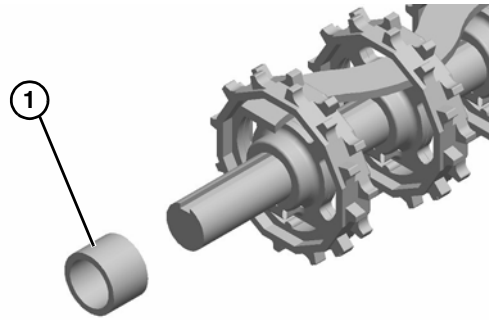

Figure 40
8. Slide off drive sprocket spacer (Figure 40, item 1).